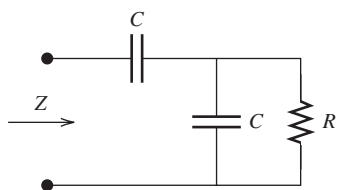

FIGURE P6.29 Circuit for Problem 6.29.
6.29 (H) What is the angular rate, ω , for the circuit in Figure P6.29, if the total impedance is $48.4125 - j137.5 \Omega$, the resistance R is 77.46Ω , and capacitance C is $50 \mu\text{F}$?